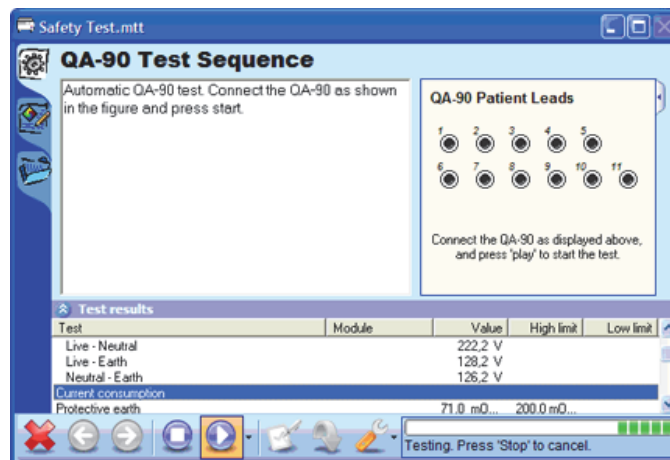

Figure 3-58. Performing a QA-90 Safety Test
5. Click the **Start Test** button (▶) to perform the automatic safety test. Ansur automatically looks for the COM ports and makes a connection to the QA-90 device. If a QA-90 connection is not made, Ansur tells the user to make the connection and turn on the device. A progress indicator is displayed in the lower right corner of the test guide while the safety test is being performed as shown in Figure 3-58.